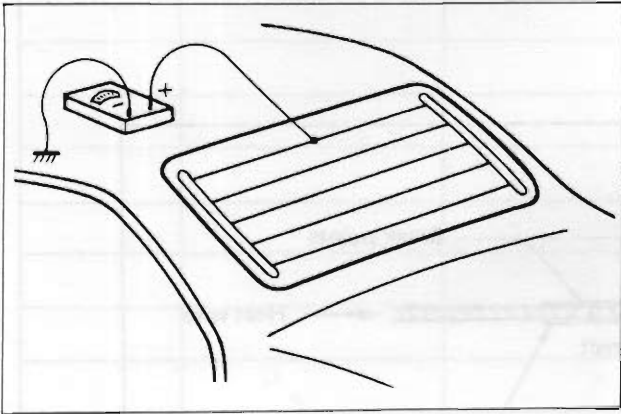

Fig. BE-45 Checking for broken heat wire with d-c voltmeter
(2) Method 2 – Start the engine and turn on the window defroster system. With a d-c voltmeter setup shown in Figure BE-45, check each heat wire for discontinuity. If the meter indicates 12 volts or 0 on a specific wire, that line is broken. (Normal indication: 6 volts)